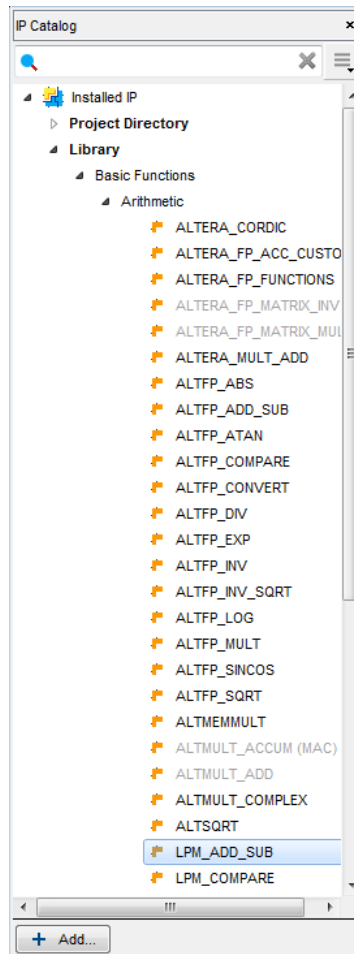

Figure 4. Choose an LPM.
1. Select Tools > IP Catalog, which opens the IP Catalog window in Figure 4.